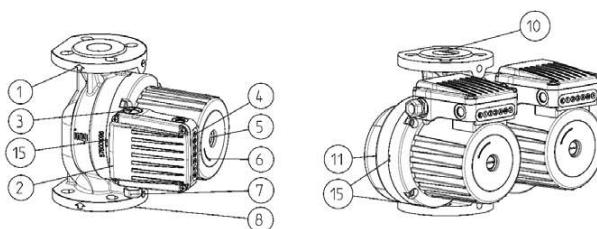
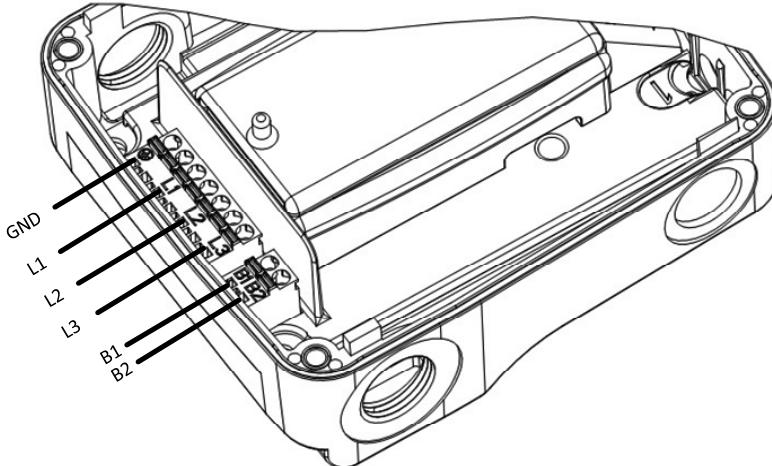
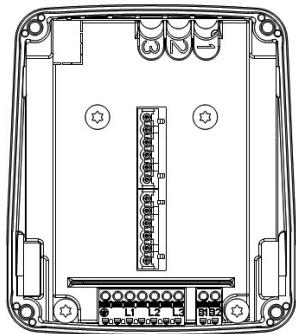

Figure 1 GHN basic II and GHND basic II
Figure 3: Electrical scheme
Fig 5: Electronics without speed selector
Desired head orientation can be achieved by rotating the pump head (allowed positions shown in figure 1). Pump head is mounted to hydraulic casting with four screws. By unscrewing those, the pump head can then be turned.
The connecting wire has to be connected over a cable entry M20 (Fig. 1 - POS. 7).
Electrical connections of the pump must be carried out in accordance with the wiring diagram (Fig. 3), attached on the bottom of motor cover. Before doing that unwind the upper cover (Fig. 1 - POS. 2). By the standard IEC 60446 it is recommended to use the following electrical wiring order:
Each pump is able to cover the areas of three hydraulic characteristics. To achieve this, it has an inbuilt electric motor with three different speeds. For achieving the selected characteristics or speeds ① ② ③, the pump has a speed selector (Fig. 5). To change the speed, the upper cover has to be removed (Fig. 1 - POS. 2), then replace the speed selector to the desired speed.
Switch off the pump, close the valve on both pressure and suction sides of the pump, unscrew the vent for deaeration, place the screwdriver (Fig. 1 - POS. 5) in the notch on the shaft and twist as longer as friction forces allow. Then screw the vent for deaeration.